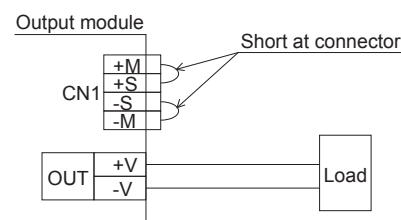

Fig.2.3 When not using remote sensing function
- Wiring method without using remote sensing is shown in Fig.2.3. When you do not use the remote sensing, connect between +S and +M and between -S and -M with CN1 of each output module. When the power supply is shipped out of a factory, a special harness is mounted on CN1 of the output module.